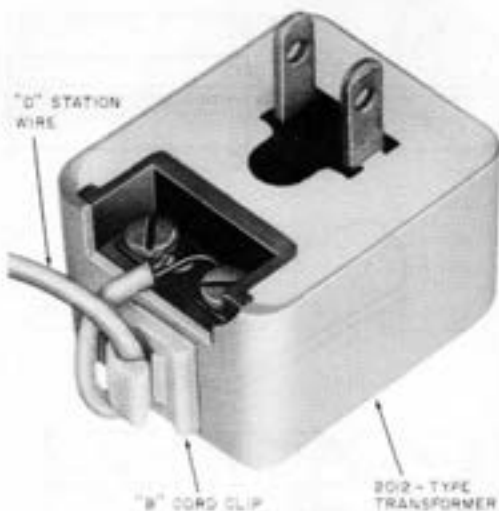

Fig. 4—Cord Clip Used to Secure Station Wire to 2012-Type Transformer
2.22 Remove protective paper from adhesive of B cord clip and stick clip to bottom of 2012-type transformers as shown in Fig. 4. Terminate D station wire on screw terminals of 2012-type transformer and hook station wire through B cord clip as shown in Fig. 4.